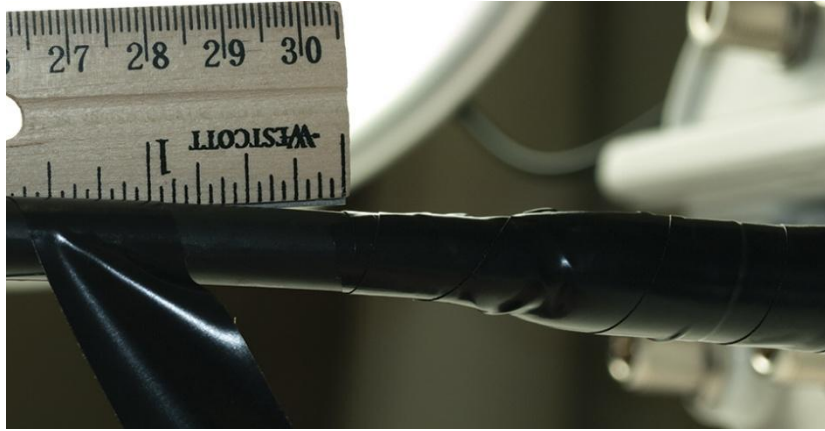

Figure 38: Wrapping $\frac{3}{4}$ " Plastic Tape 1" Below Previous Wrap
- Step 5: Start wrapping three layers of 3/4" (19-mm) plastic tape, 1" (25 mm) below the previous 2" (50-mm) wrap, overlapping at half width (Figure 38) until the entire connector is wrapped. The tape should be applied in one strip if possible. A strip can be coiled onto an applicator such as a pencil. Apply only enough tension to get good adhesion and keep the tape smooth.